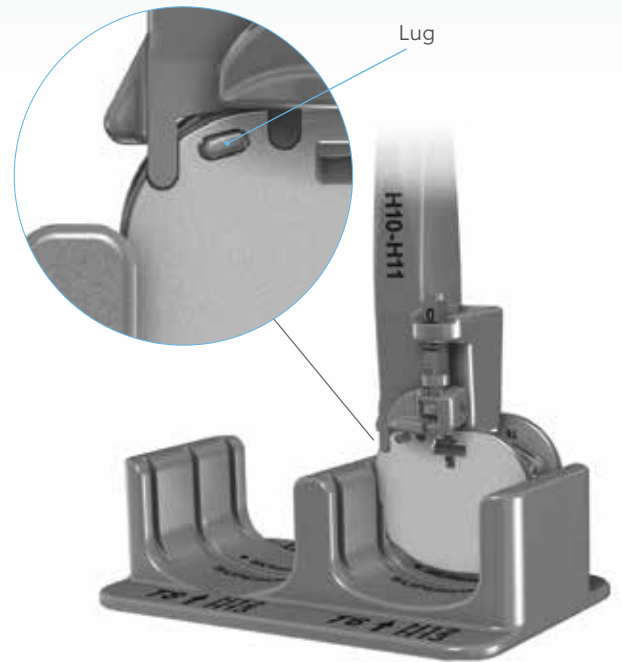

Figure 26
- Engage the four lugs of the implant holder in the corresponding slots on the prosthesis (Figure 26).